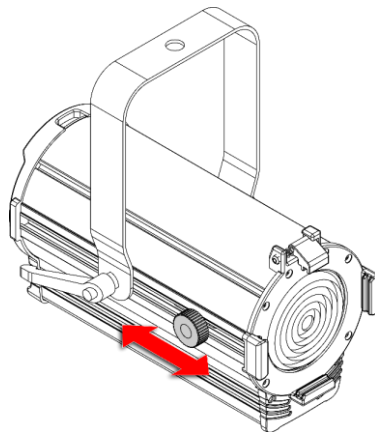

Fig. 15
- 01) Turn the **zoom control (05)** counterclockwise to loosen it.
- 02) Slide the **zoom control (05)** forwards or backwards to achieve the desired beam angle (see Fig. 15).
- 03) After adjusting the beam angle, turn the **zoom control (05)** clockwise to tighten it. Do not overtighten it.